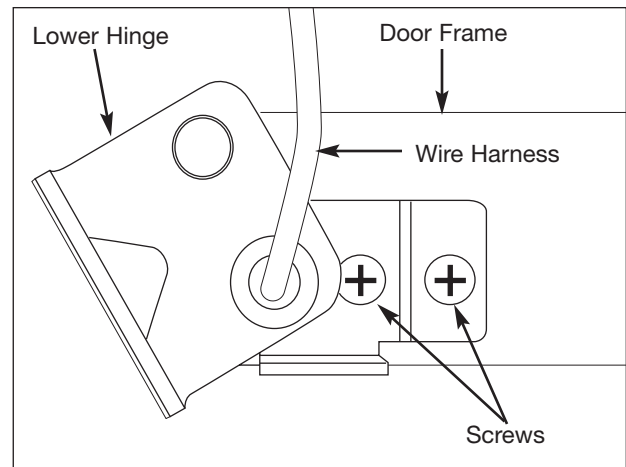

Figure 5-5. Door Lock Removal
2. Extract the two screws securing the lower hinge and door closer to the bottom of the door assembly. (See Figure 5-5)